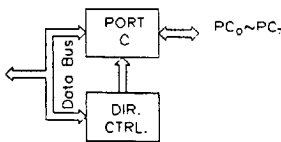

Figure 4: PIA Block Diagram
**Parallel Interface Adapter (PIA) Logic Unit:** This logic also offers an additional 8-bits of I/O, referred to as the PIA port (see Figure 4), to the user. This port, designated as Port C, is bit-programmable for data transfers; each bit can be individually programmed as either an input or an output. Bit direction control is accomplished through the programming of the PIA Control Register. When programmed as outputs, the output data latches are programmed with an I/O write cycle and their state can be read with an I/O read cycle. When programmed as inputs, the state of the external pin is read with the I/O read cycle. This port does not have handshake capabilities and offers no interrupt capabilities. This port is multiplexed to provide, when desired, the additional modem and CPU control signals for the serial I/O logic unit.